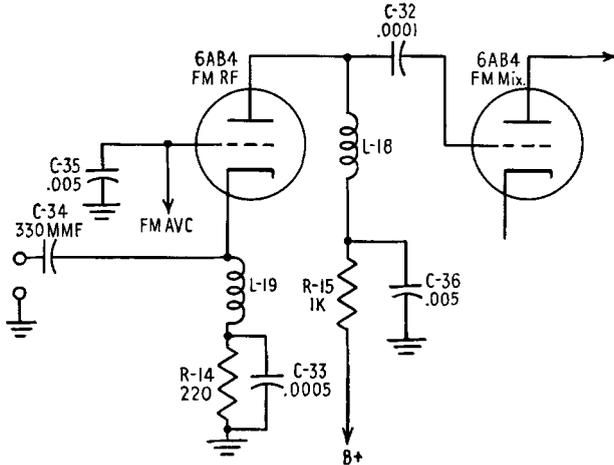

FIG. 25-15. RF amplifier of the basic receiver.
**The F-M RF amplifier.** The RF amplifier in the A-M/F-M receiver is usually employed on only the F-M mode of operation. Its function is the same as that of a similar amplifier in the A-M sets. However, new problems present themselves because of the high frequencies involved in frequency modulation. The basic RF circuit is shown in Fig. 25-15.
Return to the circuit of Fig. 25-15. The 6AB4 is the triode employed. Resistor *R-14* and condenser *C-33* furnish self-bias for the tube. The signal is fed through condenser *C-34* to the cathode. Choke *L-19* prevents the signal from going to ground across *C-33*. So far as the signal is concerned, the grid is grounded through condenser *C-35*. This is similar to the grounding of a pentode screen through a condenser.